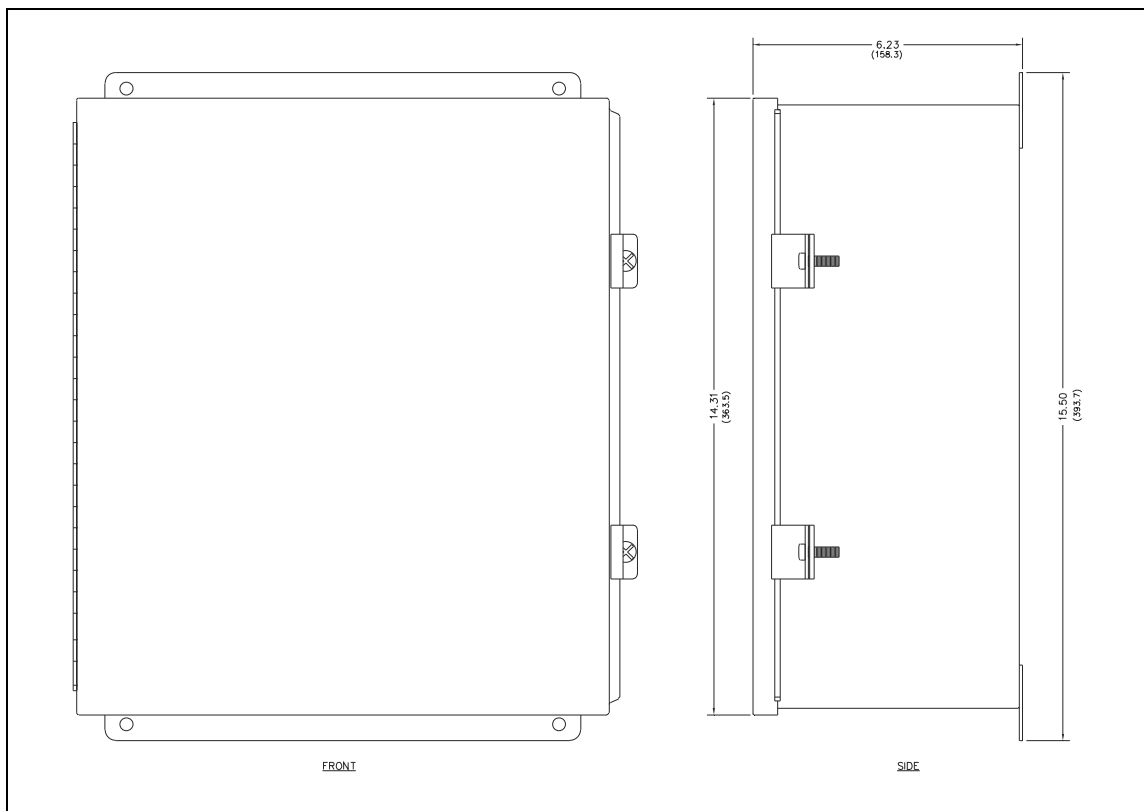

Figure 2. Model 379-003 IP MRM Station Enclosure
Mount the Model 379-003 IP MRM station vertically (see Figure 2). Select a mounting location that is flat, provides proper clearance, and is rigid and strong enough to support the enclosure. The IP MRM station weighs 19 pounds (8.6 kg)
1. Mount the enclosure using 1/4-20 (M6) hardware, appropriate for the mounting surface, through the four 0.31-inch (7.9 mm) diameter holes, on the mounting flanges (see Figure 2).